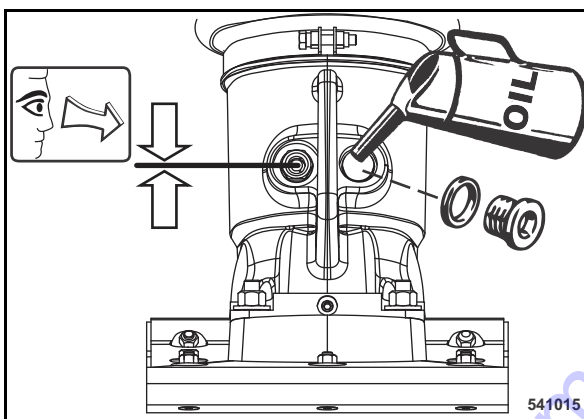

Fig. 74
- Clean the filler plug (Fig. 74) and unscrew it.